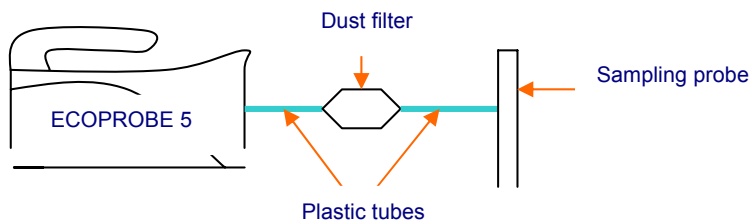

Fig.15 - Connection of the dust filter.
- Using dust filters considerably extends calibration and service intervals. Connect a piece of plastic tube to **ECOPROBE 5** gas inlet (Fig. 15). Connect the filter and then with another plastic tube connect the sampling probe. Use standard plastic petrol filters sold at service stations as consumables (for instance Shell stations).